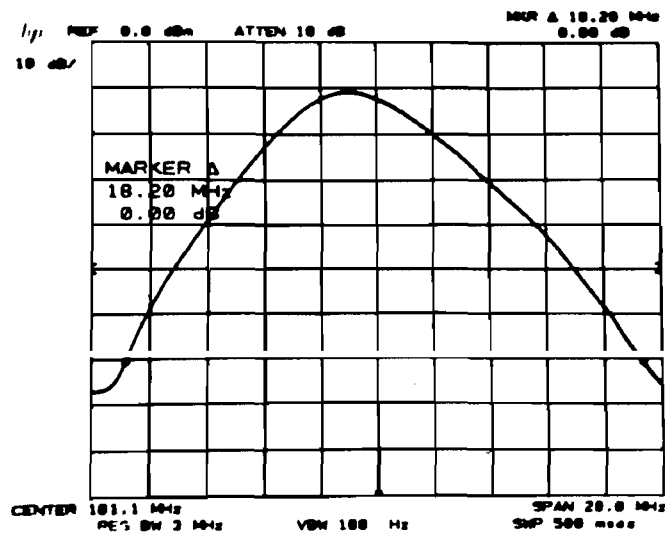

Figure 2-6. 60 dB Bandwidth Measurement
4. Press MARKER **NORMAL** and position marker at peak of signal trace. Press MARKER **Δ** and position movable marker 60 dB down from the stationary marker on the positive-going edge of the signal trace (the MARKER Δ amplitude readout should be -60.00 dB ±1.00 dB). It may be necessary to press SWEEP **CONT** and adjust **CENTER FREQUENCY** so that both 60 dB points are displayed. (See Figure 2-6.)
6. Read the 60 dB bandwidth for the 3 MHz resolution bandwidth setting from the MARKER Δ frequency readout (Figure 2-6) and record the value in Table 2-6.